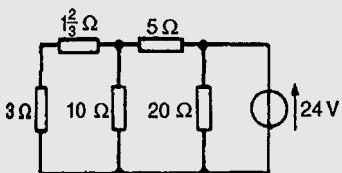

Figure 13.45
**Problem 11.** Use Thévenin's theorem to determine the current flowing in the 3 Ω resistance of the network shown in Fig. 13.45. The voltage source has negligible internal resistance.
(Note the symbol for an ideal voltage source in Fig. 13.45 which may be used as an alternative to the battery symbol.)